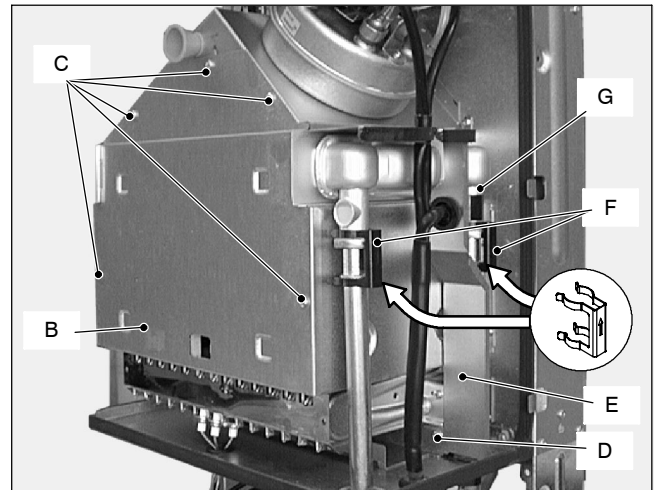

Fig. 3
- 3 Remove the combustion chamber lid *B* by unscrewing the screws *C* (Fig. 3).
- 9 Reassemble the boiler carrying out the removal operations in reverse order. **Fit the clips *F* with the arrow pointing upwards as illustrated in Fig. 3.**